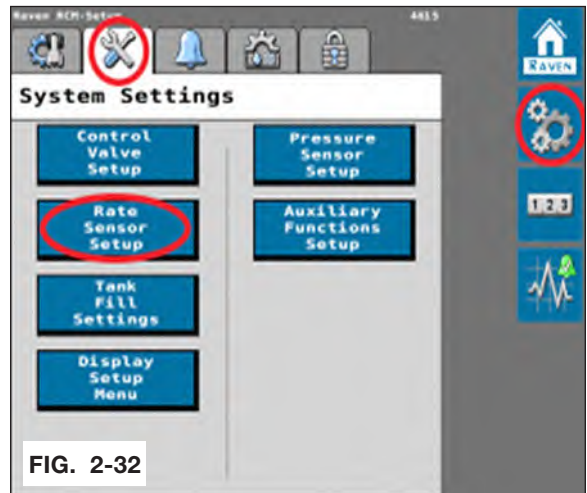

FIG. 2-32
2. Touch the Rate Sensor Setup button. (Fig. 2-32)